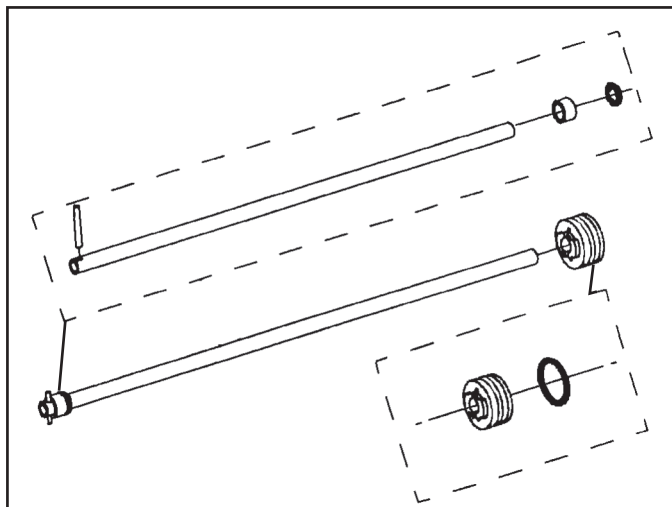

Figure 169
16. Install the roll pin in the 4th clutch feed pipe and slide the spacer over the tube and up against the roll pin (See Figure 169).
17. Carefully slide a new O ring onto the tube and push it down against the spacer (See Figure 169).
18. Slide the tube through the 4th clutch flange and seat the roll pin into the slots provided (See Figure 169).
19. Place a new O ring around the outside of the 4th clutch flange (See Figure 169).